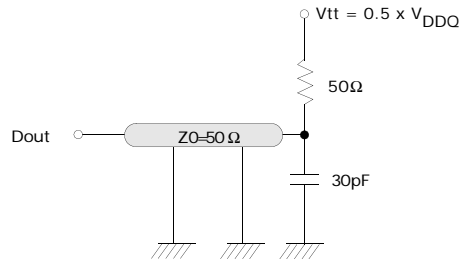

Figure 32.1 AC Output Load Circuit
- Output load (See Figure 32.1): $CL = 30pF$